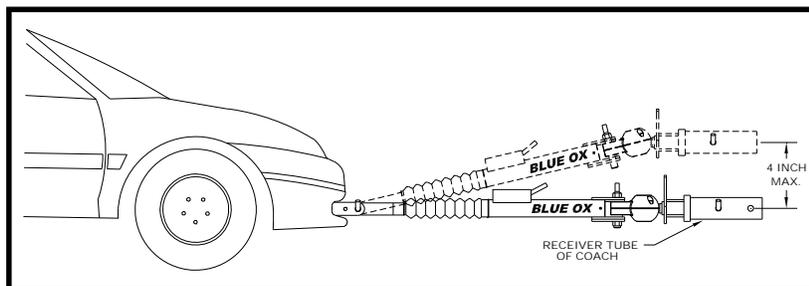

Figure 2
1. Using the cable hooks, attach the cables to a solid part of the chassis of the towed vehicle or to the convenience links. When attaching the hooks, make sure the safety snap clicks back against the hook to prevent the hook from unhooking. (See Fig. 3) **NOTE:** It is best to have permanent chains that connect the convenience links to the frame of the car. (See Fig. 2)
CAUTION: It is important that the attachment points at the center of the attachment tabs and the center of the coach's hitch receiver should be of equal distance. If a deviation must be present, it should be no more than four (4) inches from the tabs up to the hitch receiver. There should be no deviation allowed for the hitch receiver tube to be below the level of the attachment tabs. Refer to Figure 2.